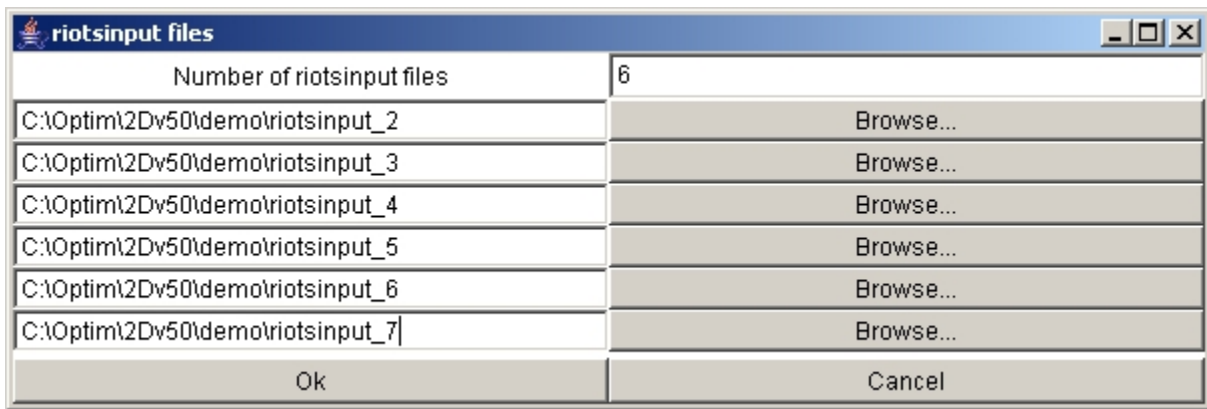

Figure 6: Set up batch file for batch processing by choosing the appropriate riotsinput files and clicking ‘Ok’.
11. The window shown in Figure 6 will open up.